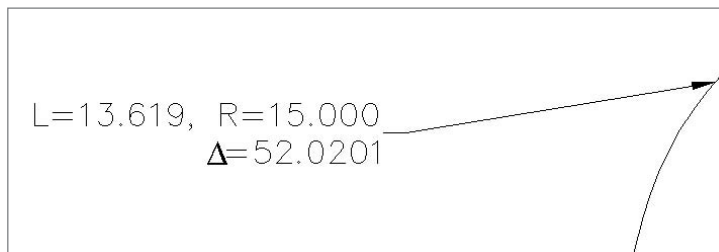

Figure 3.13
9. Select the label. Note that there are two grips that appear. Grab the square grip and drag the label off to the side. Note that an arrow appears and the label changes to a stacked formation (Figure 3.13).